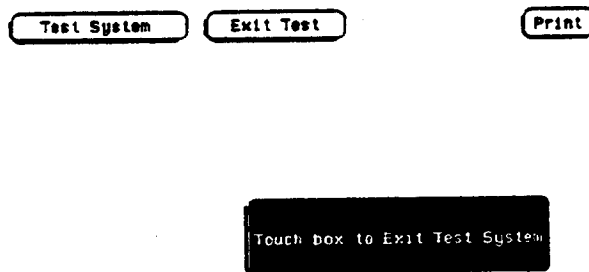

Figure 6-10. Exit Test System
- l. Touch the box to Exit Test System. See figure 6-10.